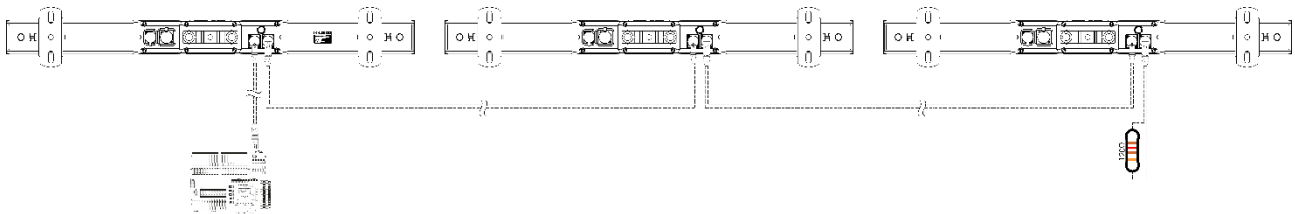

Fig. 05
- 04) Link the units as shown in Fig. 05, Connect a DMX signal cable from the first unit's DMX "out" socket to the second unit's "in" socket. Repeat this process to link the second and third unit.